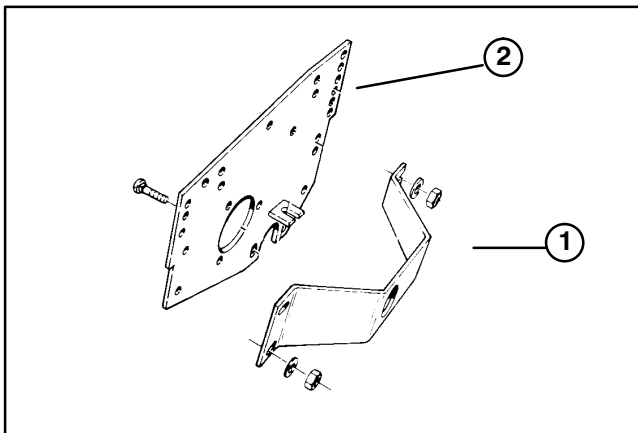

Figure 14
7. On **rear, fixed** cutting unit, remove (2) carriage bolts, washers and locknuts securing side guard to left side plate of cutting unit (Fig. 14).